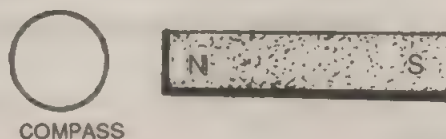

Fig. 7.24.
1. A compass, whose needle will normally point to the magnetic north, is placed next to a magnet as shown in Fig. 7.24. Copy the diagram, showing the compass needle and the direction in which it will point.